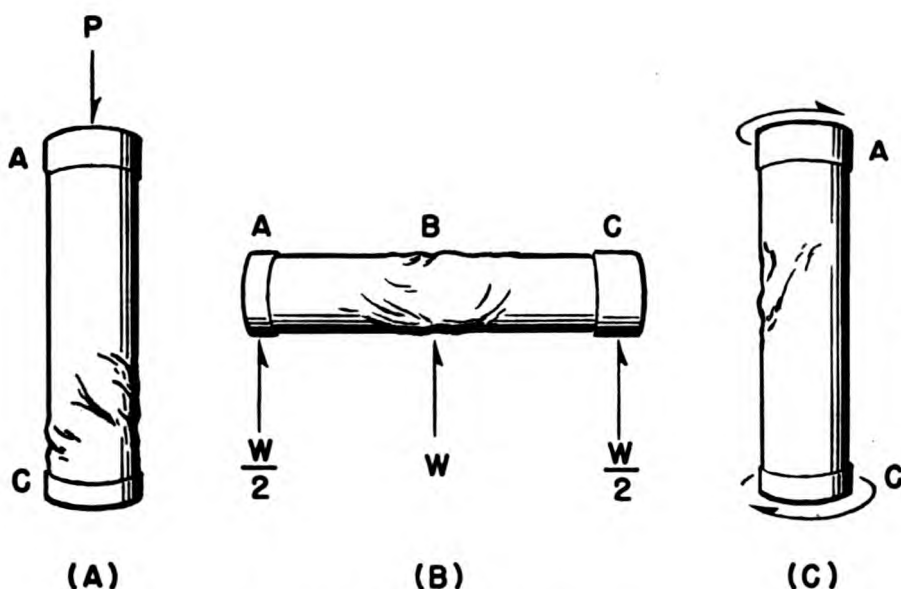

Figure 7.—It's got wrinkles.
If you should cut a HOLE in a monocoque tube made of paper like those in figure 7, you would decrease its strength. The amount of decrease would depend upon the amount of MATERIAL REMOVED and the SHAPE OF THE HOLE. You would have set up a weak point where loading stresses could spoil the tube's true shape.
Figure 7 shows what happens to the skin as a result of such loads.
Figure 7 (A) shows a paper monocoque tube carrying a COMPRESSION LOAD, (B), a BENDING load and (C), a TORSION load such as exists in the torque tube of an aileron or elevator.
Structures which perform the functions of blocks A, B, and C, in figure 7 are called BULKHEADS. BULKHEADS and REINFORCING RINGS are the chief means which designers use to get around wrinkling and hence local failures due to concentrated loads. These devices RECEIVE the CONCENTRATED LOADS and DISTRIBUTE THEM evenly into the thin walls of the structure.